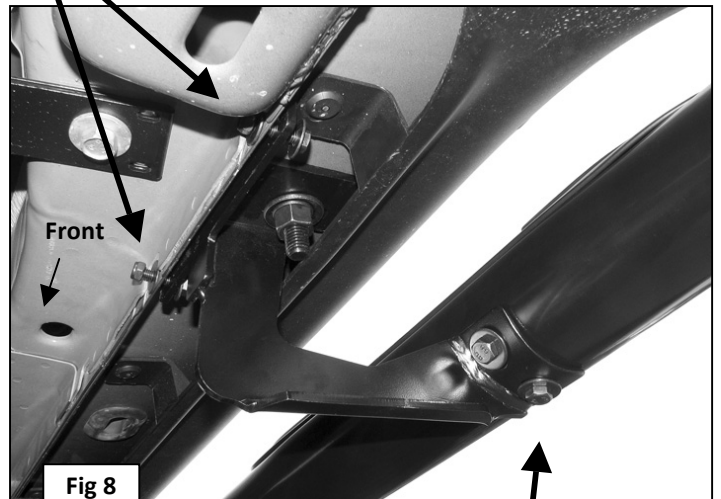

Fig 8
5. Select the passenger/right Sidebar and carefully place it in position on the (3) Mounting Brackets. Line up the threaded holes in the Sidebar with the slots in the Brackets and bolt it in place with the included (6) 8mm x 25mm Hex Bolts, (6) 8mm Lock Washers and (6) 8mm Flat Washers, **(Figure 8)**. Snug all hardware but do not tighten at this time.